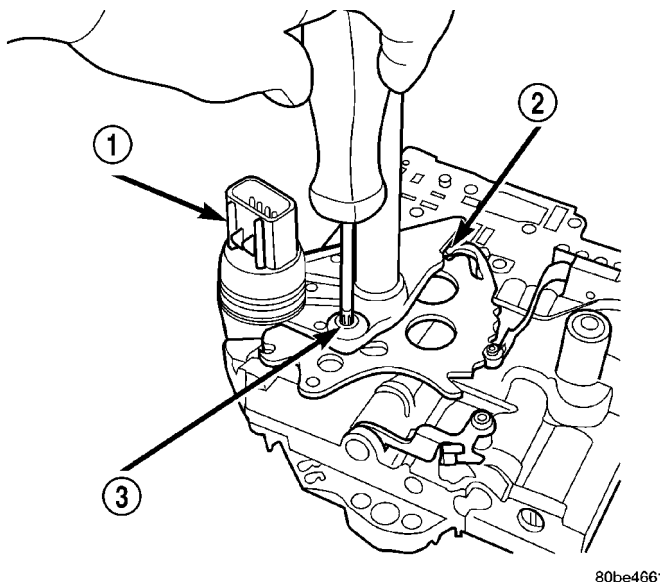

Fig. 318 Remove Transmission Range Sensor
- (2) Remove Transmission Range Sensor retaining screw (Fig. 318).